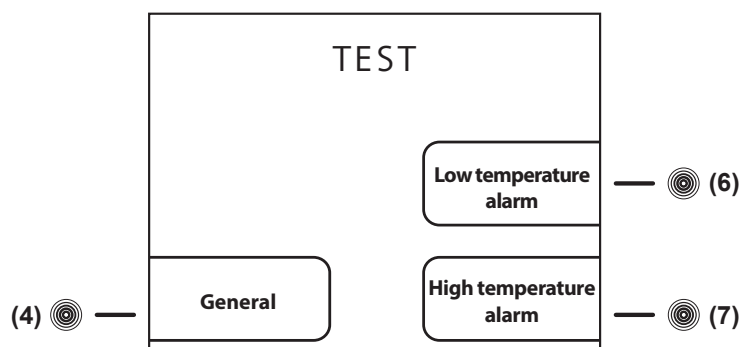

Fig.14
- from the main menu screen-shot, press the **touch-button (6)** to access to the TEST menu (**Fig.14**)
- press the **touch-button (4)** in the TEST screen-shot (**Fig.14**) to activate the GENERAL test. Through this procedure will be checked automatically the correct functioning of the battery and battery relay. The buzzer sounds during all the test (6 seconds). If the test has a positive result, the display shows TEST OK, otherwise the display switch off for a few seconds and automatically re-starts. Once completed the test, automatically, the display return back to the main screen-shot.
- press the **touch-button (6)** in the TEST screen-shot (**Fig.14**) to activate the LOW ALARM TEMPERATURE TEST. The display shows automatically the temperature that decrease and once reached the limit set for the low alarm temperature, It activates the buzzer and on the display appears the indication of Low temperature alarm. Press the **ESC touch-button (11)**, the test terminates and the display return back to the main screen-shot.
- press the **touch-button (7)** in the TEST screen-shot (**Fig.14**) to activate the HIGH ALARM TEMPERATURE TEST. The display shows automatically the temperature that increase and once reached the limit set for the high alarm temperature, It activates the buzzer and on the display appears the indication of Low temperature alarm. Press the **ESC touch-button (11)**, the test terminates and the display return back to the main screen-shot.